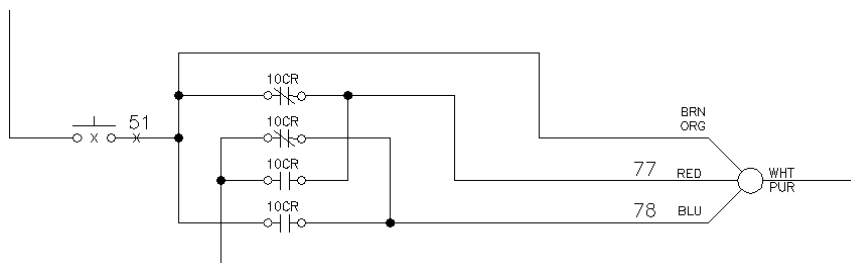

Figure 10-21: The completed electrical schematic
8. Save your drawing. It should look like Figure 10-21.